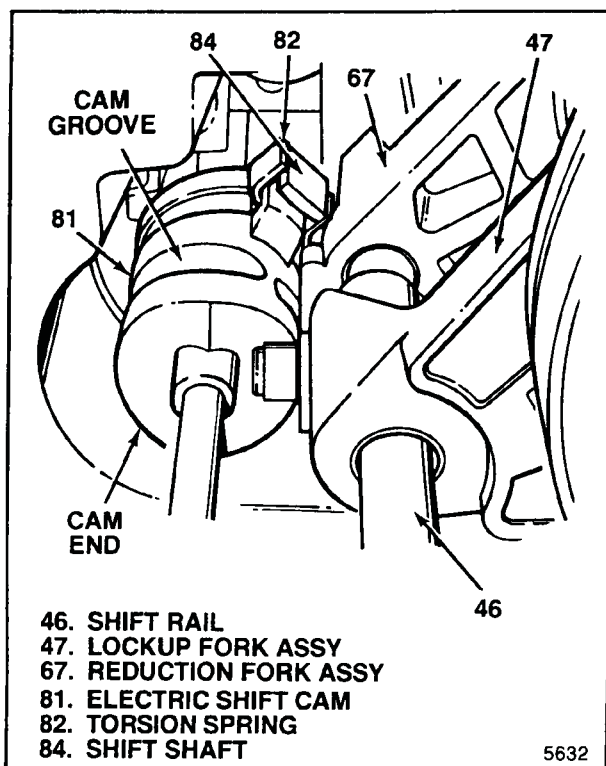

Figure 5-17. Electric Shift Cam Installation
- a. Install two fork facings (48) on lockup fork assembly (47).
- b. Assemble return spring (44) and lockup hub (43) in lockup collar (45) and retain with snap ring (42), completing 2W-4W lockup assembly (41).
- c. Engage lockup fork assembly (47) in groove in 2W-4W lockup assembly (41) and slide this group down over output shaft (65) and shift rail (46) previously installed.
- d. Install shift collar hub (40), engaging splines on output shaft (65) and in 2W-4W lockup assembly (41).
- e. On electric shift units only, install electric shift cam group (81 through 84) previously assembled (paragraph 5-8) as follows (see figure 5-17):
1. Position electric shift cam group as shown in figure 5-17, rotated so that end of torsion spring (82) will contact side of reduction shift fork assembly (67) that faces up, toward top of case.
2. Holding shift rail (46) down, raise up fork assemblies (67 and 47) slightly. Rotate electric shift cam group into position so that roller on reduction fork assembly (67) is in groove in shift cam (81) and roller on lockup fork assembly (47) is on cam end. Then lower this group of parts into the transfer case engaging shift shaft (84) pin in transfer case.
- f. On electric shift units only, install clutch housing (39) over end of output shaft (65).
- g. On all units, install snap ring (38) in groove in output shaft (65).